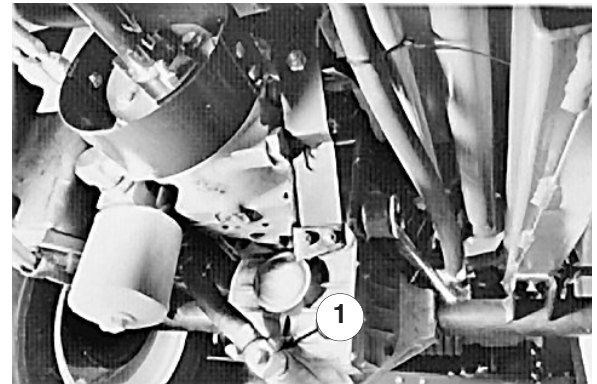
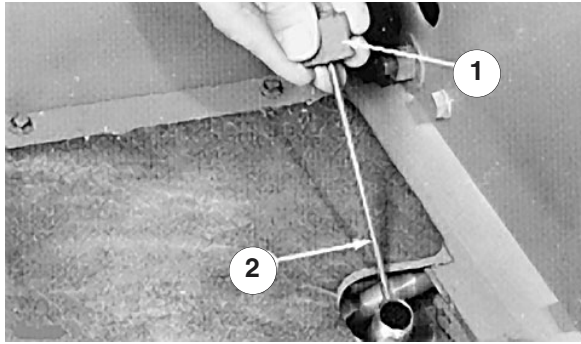

Figure 50
Figure 51
4. Remove drain plug from the fitting between axle housing and oil filter and let the oil flow into a drain pan (Fig. 50).
6. Install the drain plug in the fitting between the axle housing and oil filter (Fig. 50).
7. Remove the dipstick from the axle filler tube (Fig. 51) and fill the axle to proper level with correct type and viscosity oil recommended for expected ambient temperature conditions; refer to table above.
9. Let the machine sit for two additional minutes, then remove the dipstick and check the oil level in axle (Fig. 51). If the level is low, add oil until the level matches the groove in the dipstick (Fig. 51). If the level is too high, remove the drain plug (Fig. 50) and drain oil until the oil level matches the groove in the dipstick.